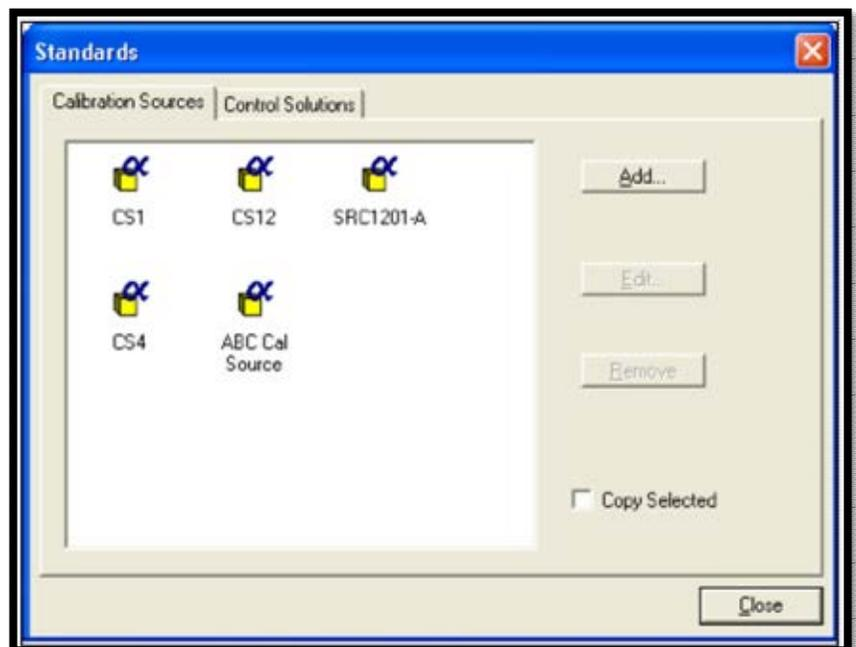

Figure 154. Standards Showing New Standard Added
- 6) The new standard has been added (Figure 154). The system is now ready to calibrate the detectors using the Calibration Wizard.